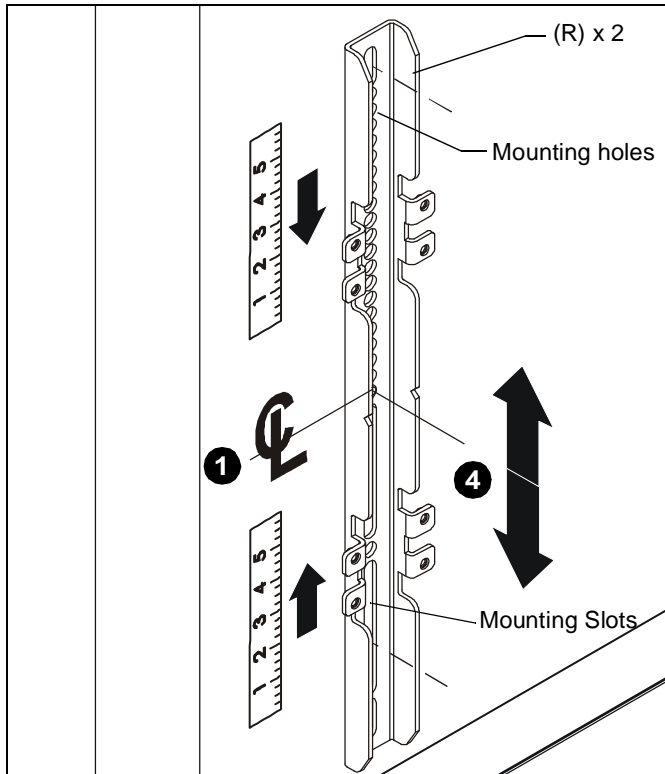
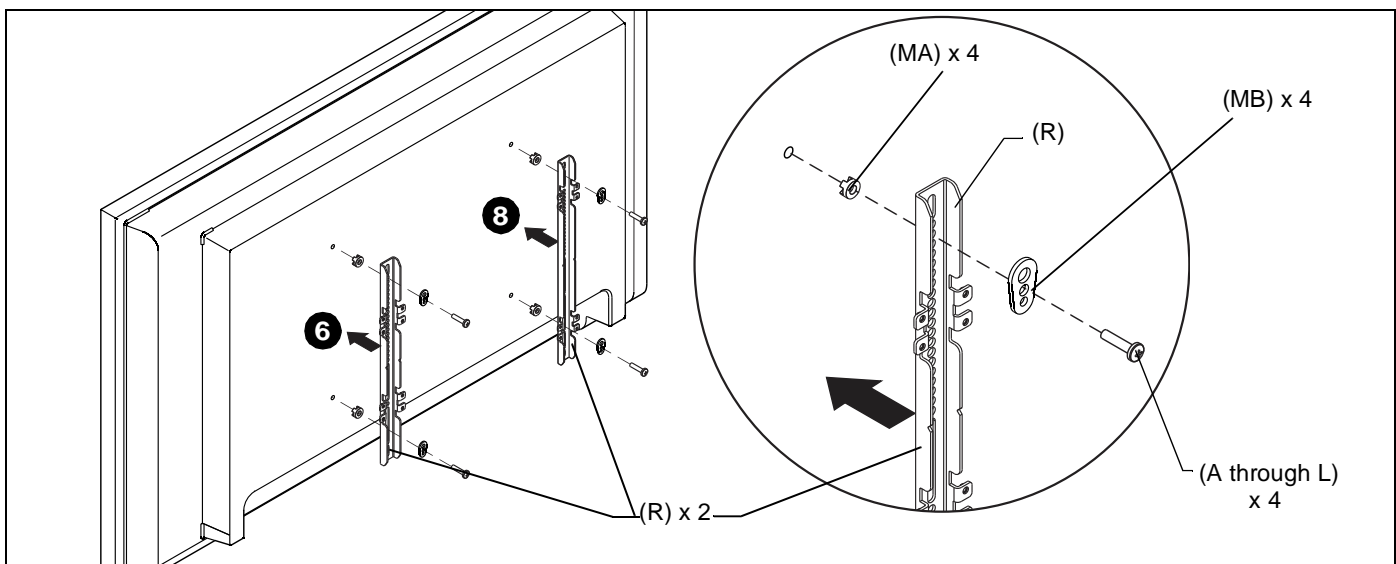

Figure 1
Figure 3
1. Determine and mark the vertical center position between the Left side Upper and Lower mounting holes in display. (See Figure 1)
2. Determine and mark the vertical center position between the Right side Upper and Lower mounting holes in display. (See Figure 1)
3. Orient vertical mounting bracket (R) so that mounting holes are on top and mounting slots are on bottom. (See Figure 1)
4. Align mounting holes in vertical mounting bracket (R) with upper and lower mounting holes in display.
5. Adjust vertical mounting bracket (R) position until mark made in Step 1 aligns with center mark in vertical mounting bracket (R).
6. Select correct screws, nesting spacers (if necessary) and universal washers (if required) from the hardware bag (A-M) and attach brackets to back of screen. (See Figure 3)
7. If the display has a recessed mounting surface, protrusions or a power box, a spacer and longer mounting hardware must be placed between the display and vertical mounting bracket (R). (See Figure 3)